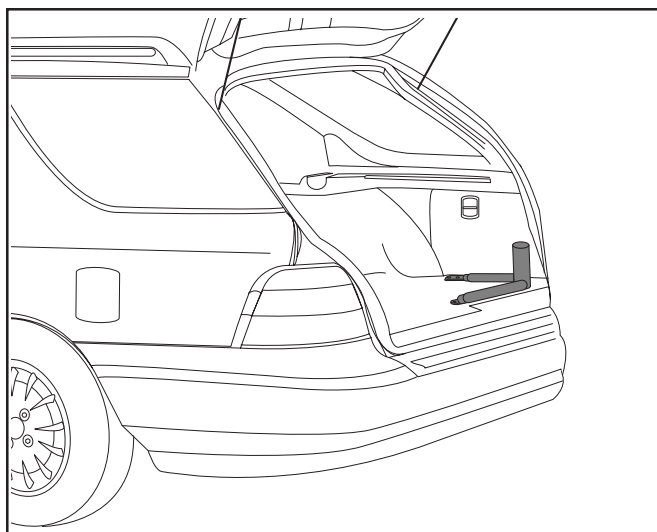
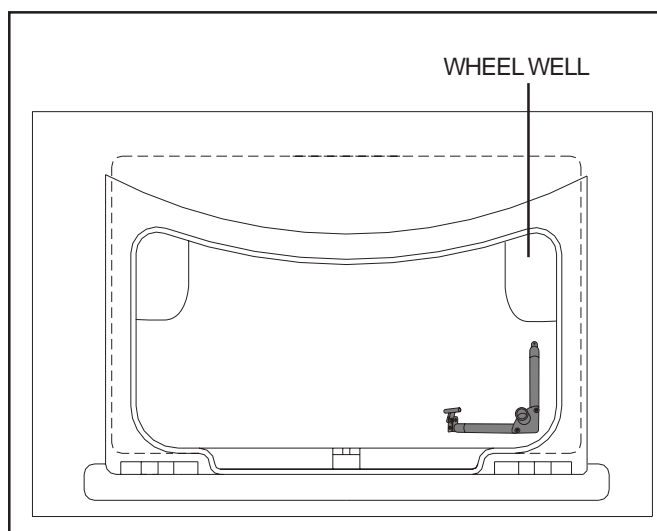

Figure 2. L-Base (Hatchback Installation)
Figure 3. L-Base (Trunk Installation)
2. Before permanently installing the lift, place the L-base inside your vehicle in the area in which you intend to install it. See **figure 2** for L-base positioning in vehicles with hatchbacks, or **figure 3** for trunk installation.
Position the L-base as shown in **figure 3**. You may need to situate the L-base so the wheel well doesn't interfere with the L-base extensions. Ensure there is adequate room for a mobility product to comfortably fit into the trunk.